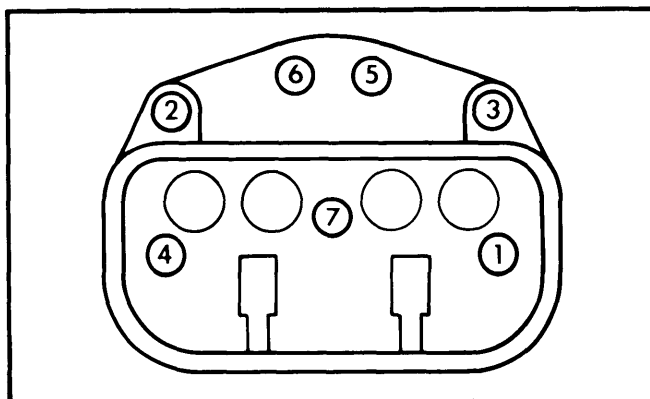

Fig. 1 Cylinder Head Loosening Sequence
5) Remove spark plugs and valve cover. Remove rocker assembly and push rods. Remove cylinder head bolts in sequence. See Fig. 1. Remove cylinder head and gasket. Use Allen wrench and remove crankcase plug.